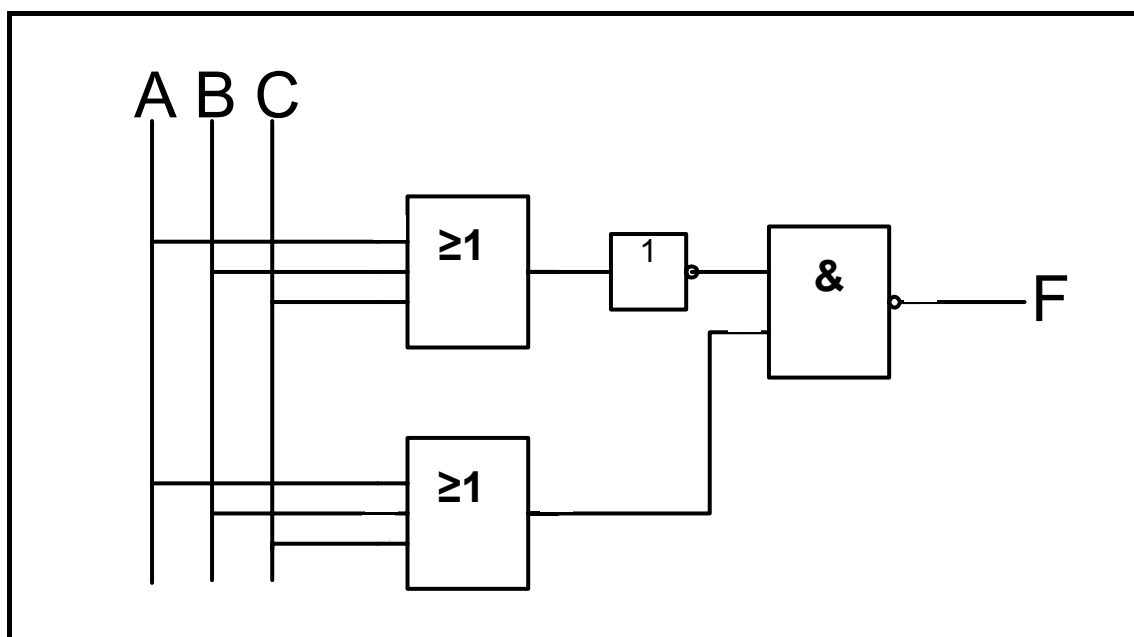

FIGURE 9.3 – LOGIC CIRCUIT
9.5 With reference to the logic circuit in FIGURE 9.3 below: